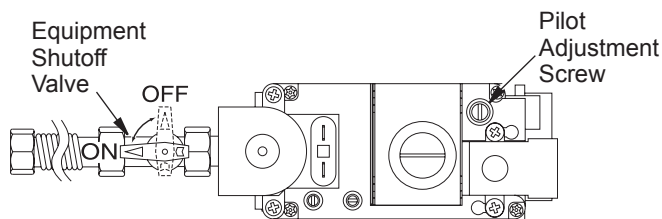

Figure 48 - Turning Equipment Shutoff Valve to the OFF Position
5. Turn equipment shutoff valve clockwise to the OFF position (see Figure 48). Do not force.
6. Wait five (5) minutes to clear out any gas. Then smell for gas, including near the floor. If you smell gas, STOP! Follow "B" in the safety information in page 23. If you don't smell gas, go to the next step.
- Turn the adjustment screw marked PILOT clockwise to decrease or counterclockwise to increase the flame to proper size (see Figure 48, page 24). Do not remove the adjustment screw.